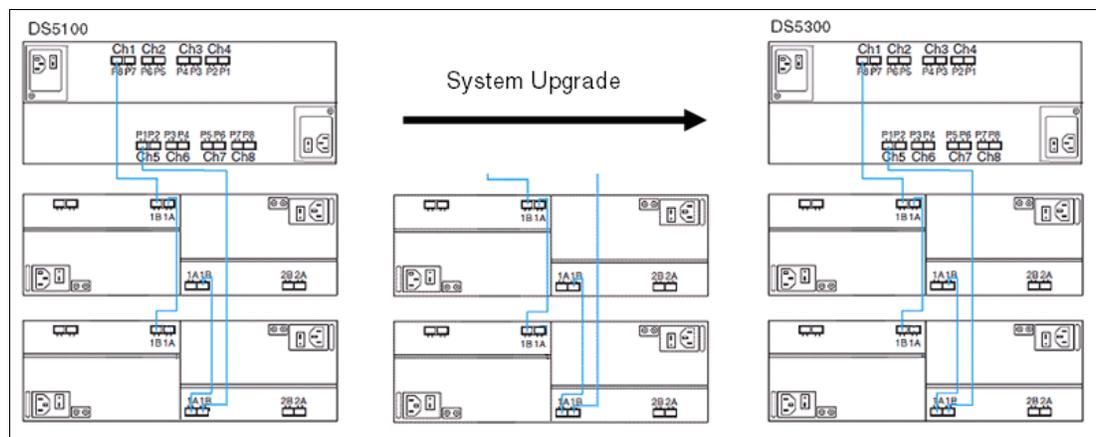
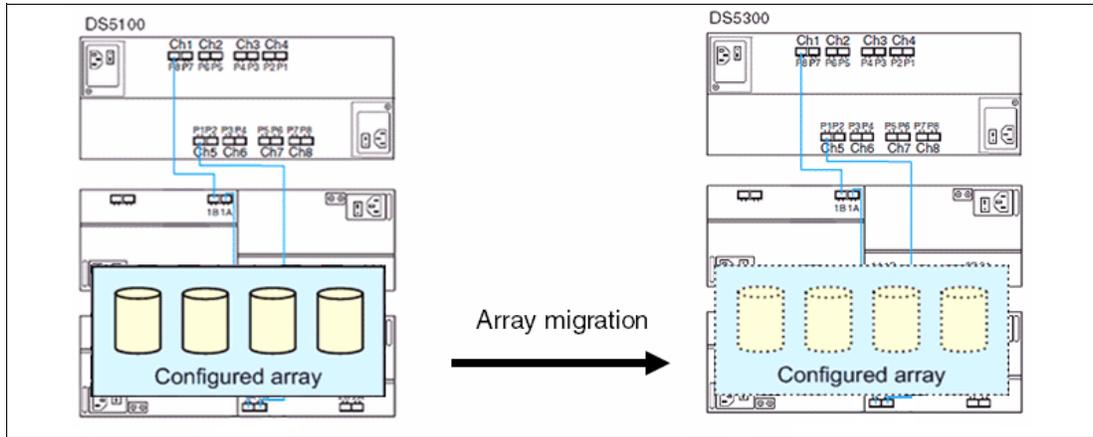

Figure 3-53 Upgrading DS5000 controllers
Figure 3-54 Relocating arrays
- ▶ Data intact upgrades and migrations: All DS5000 subsystem recognize configuration and data from other DS5000 subsystems so that migrations can be for the entire disk subsystem as shown in Figure 3-53, or for array-group physical relocation as illustrated in Figure 3-54.